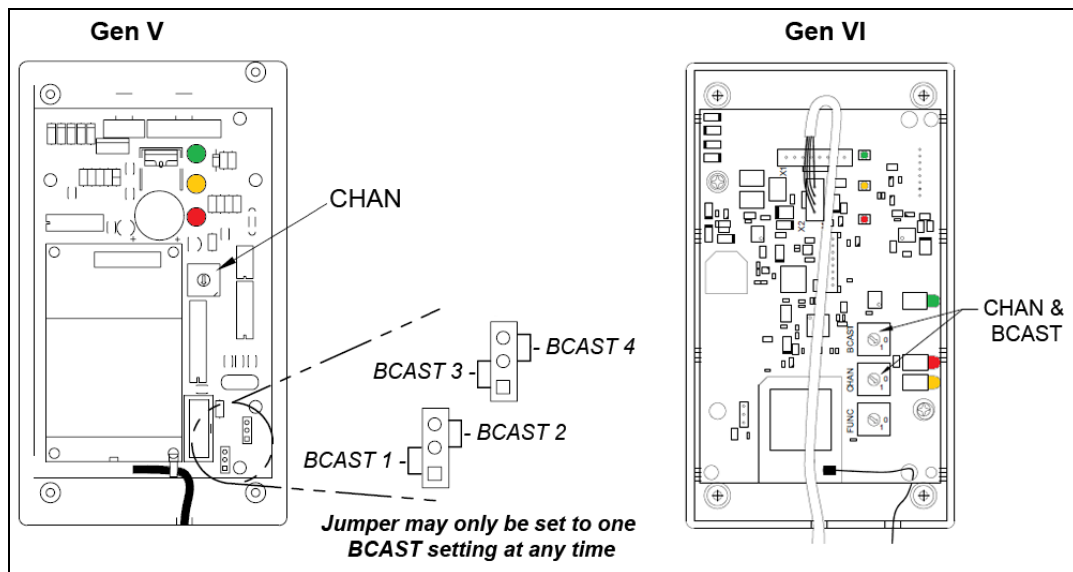

Figure 25: Radio Receiver Switches
3. The process of changing the radio settings depends on the generation of the radio. Refer to the instructions below and **Figure 25**.